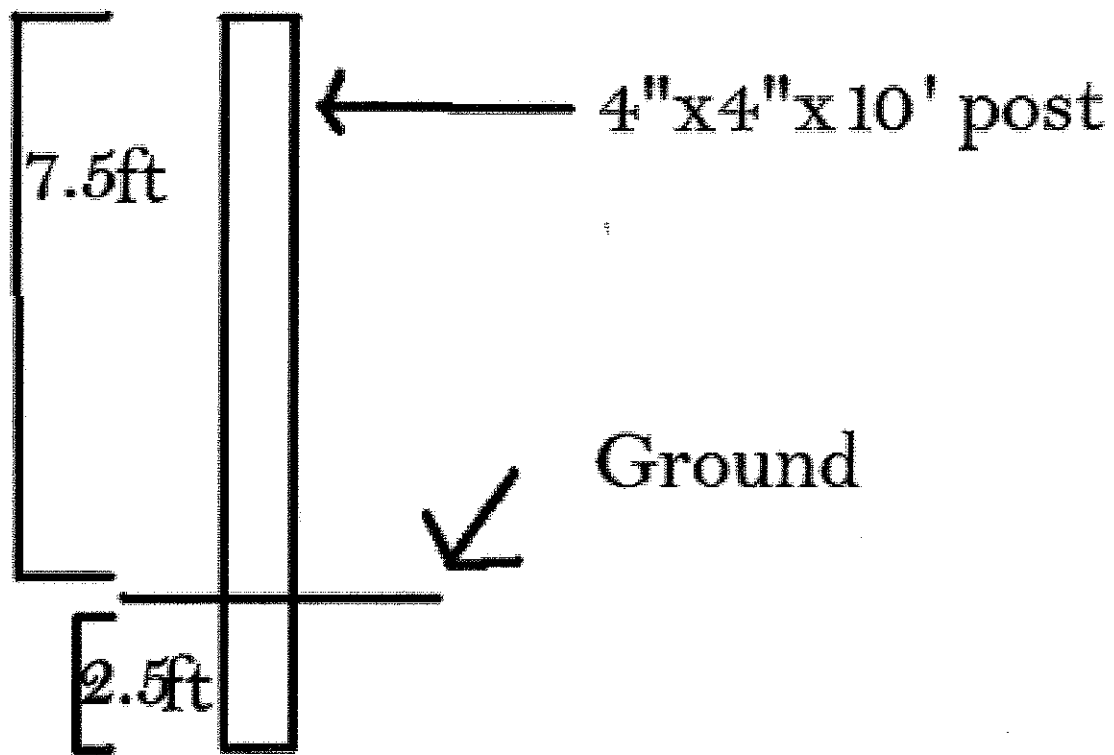

Figure 16, Kiosk vertical post measurements
6. Make sure that none of the 1 foot 5 in wood from the joists overlaps over the 22.5 in post (as shown in figures 16 and 17)